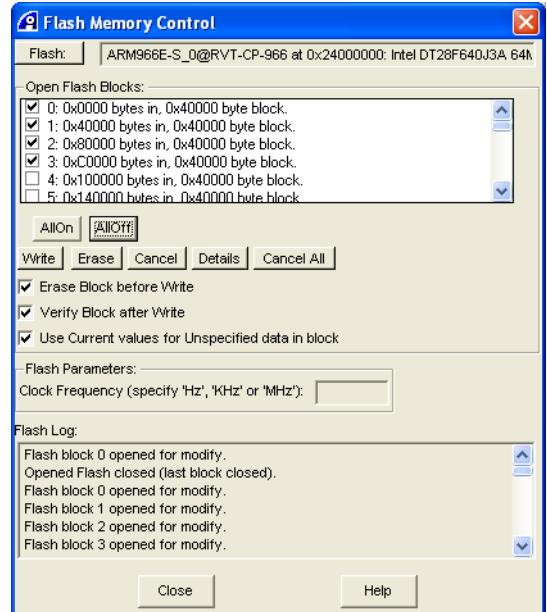

Figure 6-3 Flash Memory Control dialog box with multiple blocks selected
1. Select the required Flash blocks in the Open Flash Blocks list of the Flash Memory Control dialog box. Figure 6-3 shows an example: